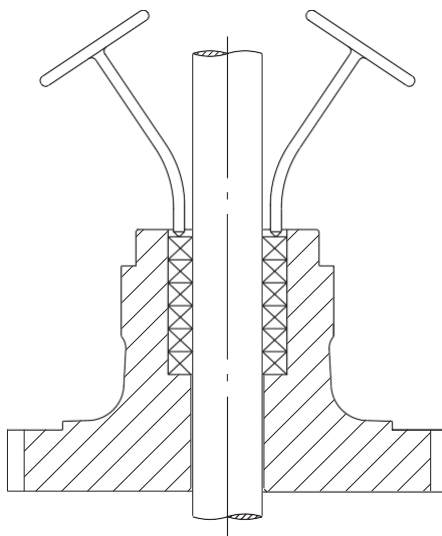

Figure 1 – Detail of gasket removal tool
- 5 - Remove all the old gaskets with the aid of the appropriated tool (see Figure 1) taking care not to damage the stem and the stuffing box in the cover, this means the removal of all the rings, including the lantern ring and more subsequent rings when appliable;